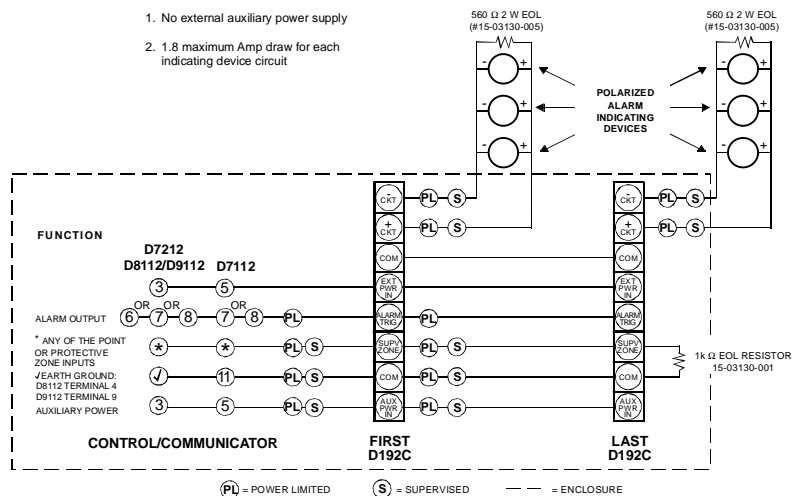

Figure 2: Connection with no External Power Supply
2. Depending on the power supply used, wire the D192C according to Figures 2, 3 or 4.
3. Install the 560 W, 2 watt EOL resistor (part #15-03130-005, included with the D192C Module) beyond the last indicating device. Install the D105FL EOL resistor (part #15-03130-001) on the last D192C for a supervised zone or point, as shown in Figures 2, 3 and 4.
3. Install the 560 W, 2 watt EOL resistor (part # 15-03130-005, included with the D192V module) beyond the last indicating device. Install the D105FL EOL resistor (part # 15-03130-001) on the last D192C for a supervised zone or point, as shown in Figure 2, 3, 4 and 5.
The power supply fault conditions must be supervised by a U.L. Listed relay, as shown in Figure 2.
Alarm power comes from an external power supply, or the panel battery, if one is used (see Figure 2)